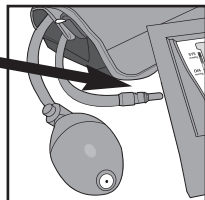

Fig. 1
2. Insert the cuff tubing connector into the port on the left side of your monitor, *Fig 1*.